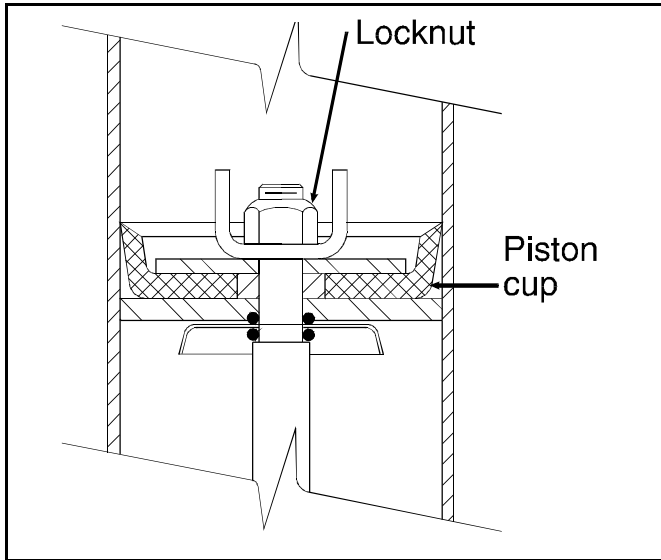
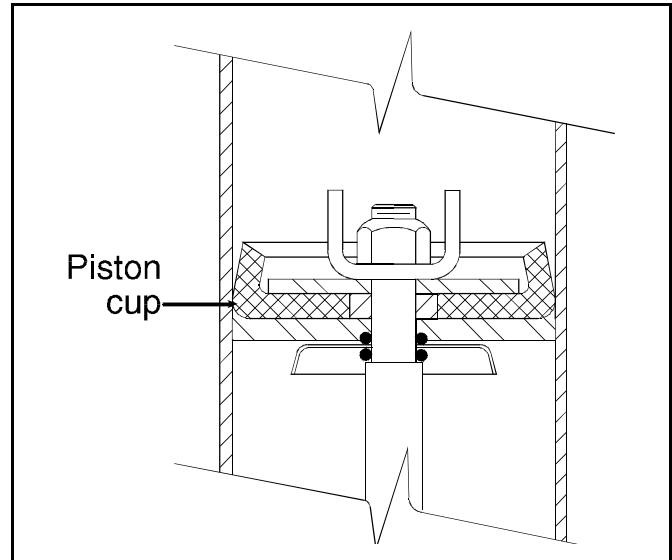

FIGURE 2 (MSSM0130AE)
FIGURE 3 (MSSM0130AE)
- Note position and orientation of piston cup(s), washers, and springs. Replace worn parts, then reassemble in reverse order. Tighten locknut until it is just barely possible to turn the piston cup and washer assembly on the stem. Correct piston cup shape is shown in FIGURE 2. **DO NOT** overtighten, as this causes the piston cup to deform to the shape shown in FIGURE 3 and may cause piston to bind in cylinder.